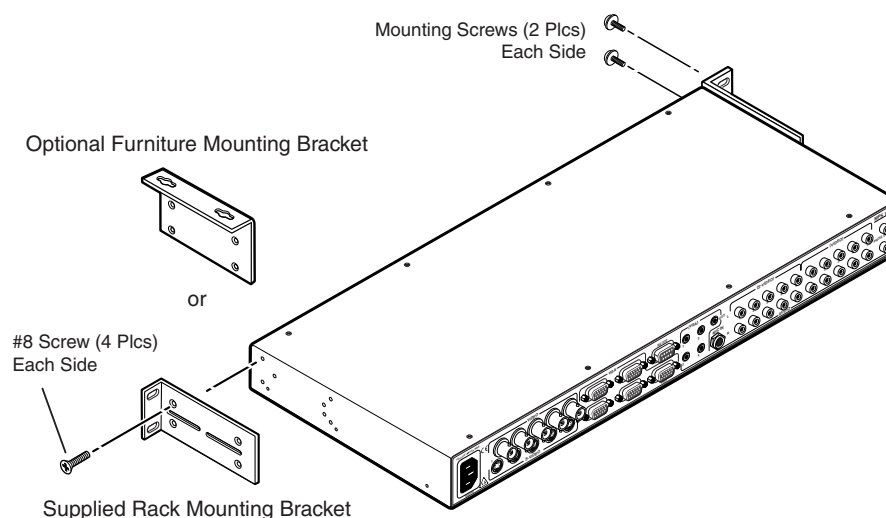

Figure 2-1 — Mounting the MPS switcher
1. Attach the supplied rack mounting brackets to the switcher with the eight provided #8 machine screws (figure 2-1).
1. Attach the table/wall mounting brackets to the switcher with the eight provided #8 machine screws (figure 2-1).
1. Attach the supplied mounting brackets to the switcher with the machine screws provided (figure 2-1).